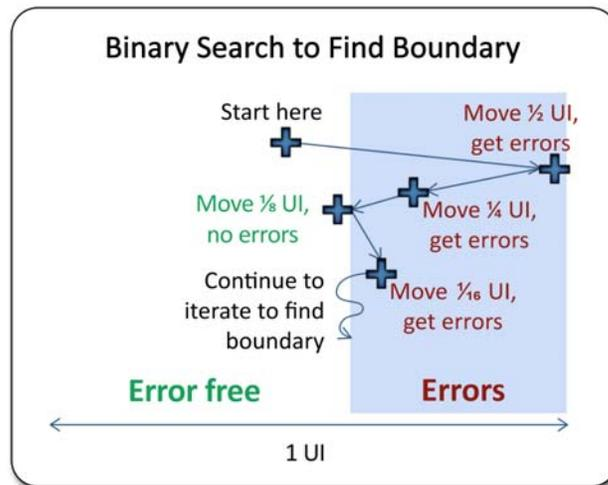

Figure 3. Binary search method to fine-tune the Clock to Data delay match
10. Once error free operation is obtained, find the boundary between error free and errored operation by **decreasing** the Generator Delay and using a binary search method as shown in Figure 3 below. Record the Generator Delay.